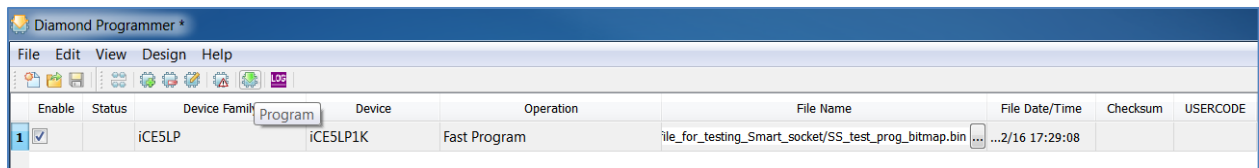

Figure 6.26. iCE40 Family – Program Icon
4. Click the **Program** icon  to program the device as shown in Figure 6.26.